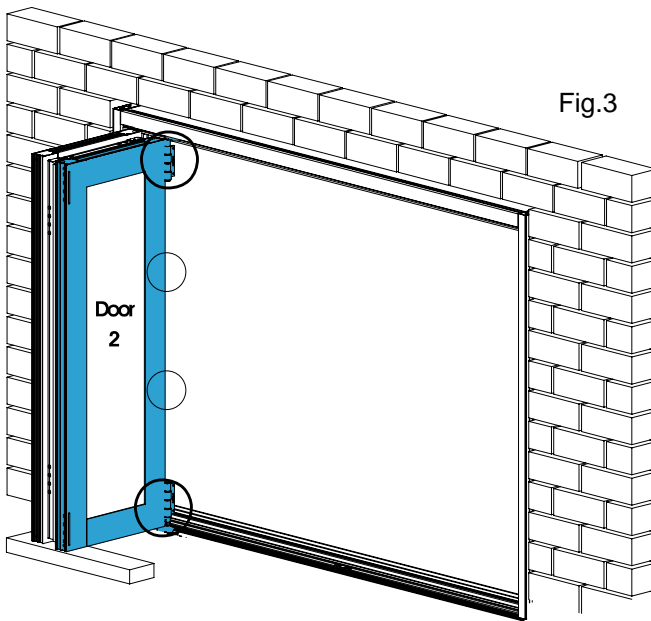

Fig.3
**c)** Move the door to the right-angle position and support on blocks, ensuring the weight is not on the door seal. (Fig.3).